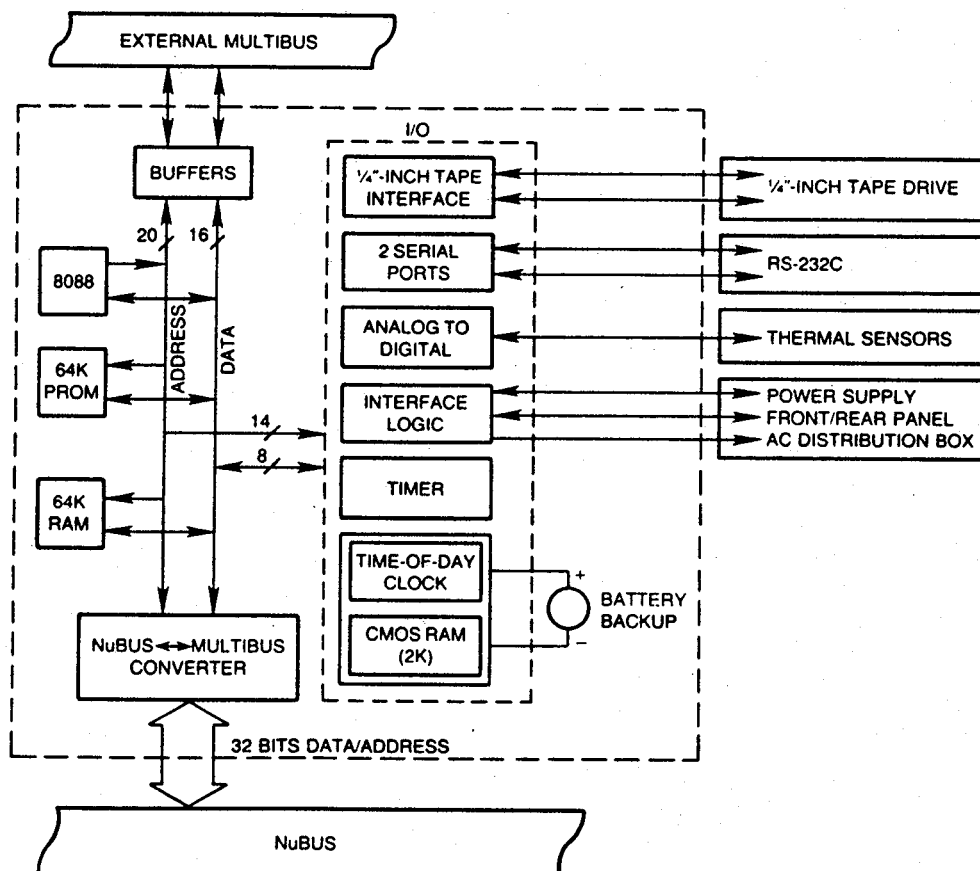

Figure 1-2. SDU Block Diagram and System Interfaces.
The SDU is an 8088-based, single printed wiring board (PWB) microprocessor system with additional special purpose hardware to interface to the NuBus (TM)* architecture and provide required system utilities. Figure 1-2 shows the major hardware subsections and interfaces with other Nu Machine system components. The following paragraphs describe the major SDU components.